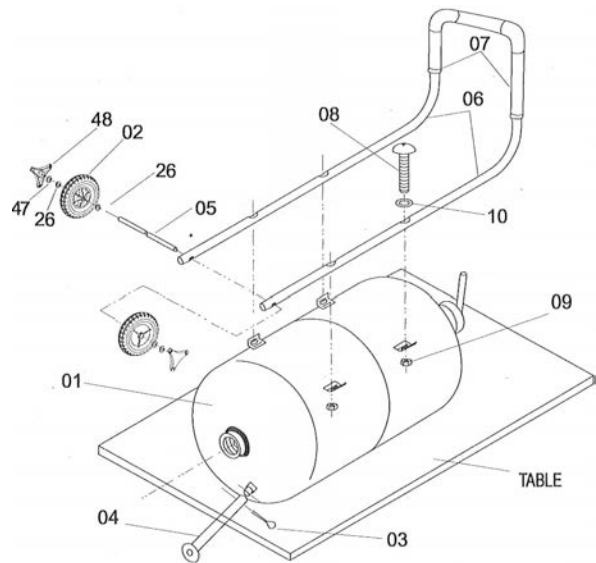

Figure 2
5. Lay the Abrasive Blast Tank on a flat level surface (such as a workbench or table top), with the handlebar mounting brackets facing up. (Figure 2)
6. Align the 4 holes in the Handlebar (06) with the four holes in the handlebar mounting brackets. Note: Keep the curved end of the handle facing upward.
7. Place a Washer (10) onto each of the four handlebar mounting Screws (08) and insert them through each of the four holes.
8. Place a nut (09) onto the end of each screw and firmly tighten with a wrench.
9. Locate the Wheel Axle (05) and slide it through the axle holes located at the bottom of the handlebar.
10. Slide a wheel Washer (26) onto each end of the wheel axle.
11. Slide a wheel (02) onto each end of the wheel axle.
12. Slide a wheel Washer (26) onto each end of the wheel axle.
13. Using snap ring pliers, install a Snap Ring (47) onto each end of the wheel axle. Note: Wheel axle has a groove cut into it - snap ring should rest in this groove so it will not slide off the wheel axle.
14. Firmly snap Wheel Lids (48) into place on wheels.